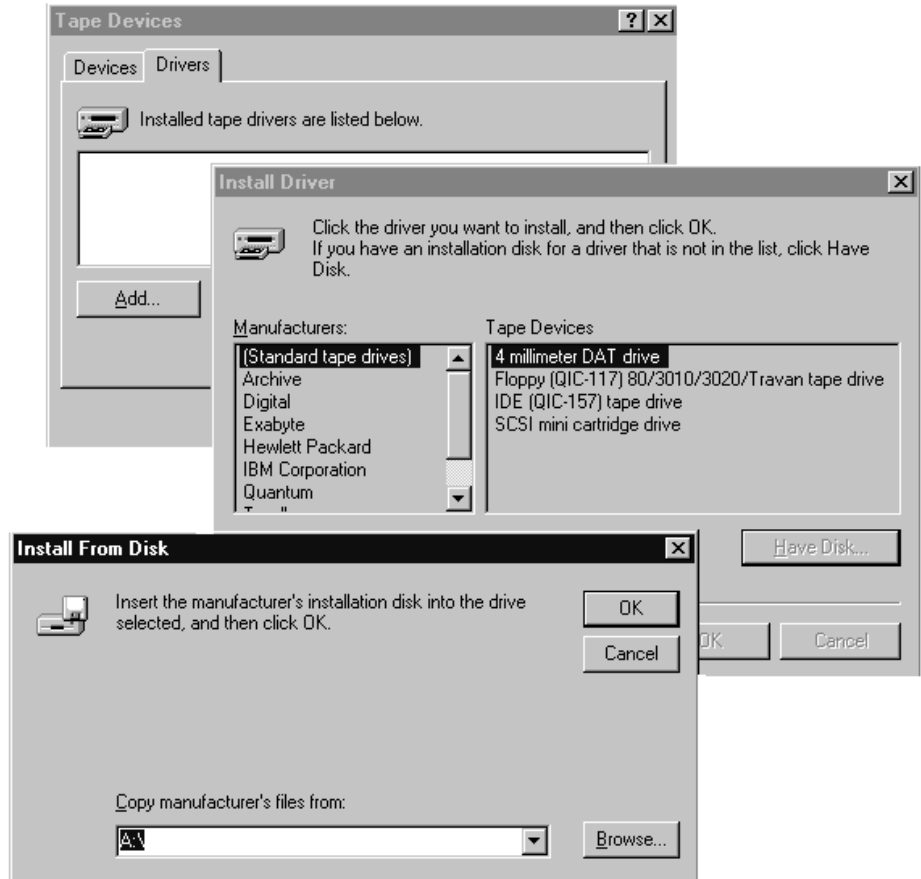

Figure 14. Have Disk Menu
7. If you installed the **Device Driver System Files** component in step 4 on page 146 , **skip to step 8** on page 152. If you did not install the **Device Driver System Files** component, click **Have Disk...** and enter the directory where your device driver setup file (*IBMUltrium.inf*) is located in the **Copy manufacturer's files from:** box. You may also click **Browse...** to select the directory. See Figure 14.